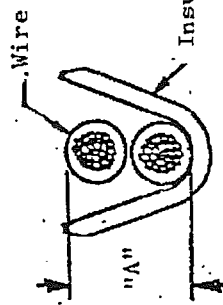

Fig. 3
(1) For AMP-O-MATOR (2) For AMP-O-LECTRIC\* Auto-Machine
- For two-wire crimp, use the wire having insulation diameter of the ranges specified in Fig. 3.